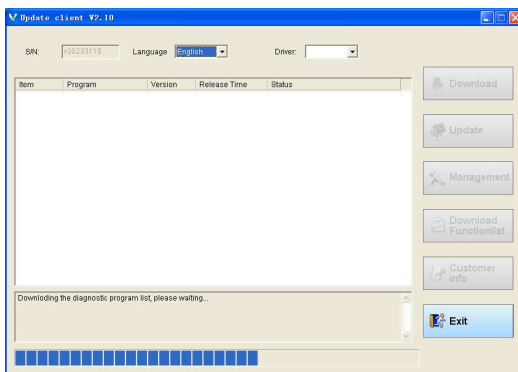

Fig 2-2 Downloads progress
- (1) Input the serial number and password then click on the **[OK]** button to connect to server. It takes some seconds before the download is finished like Fig 2-2.
- (2) The default server is 'www.AUTOBOSS.net'. Normally you do not have to change the server.